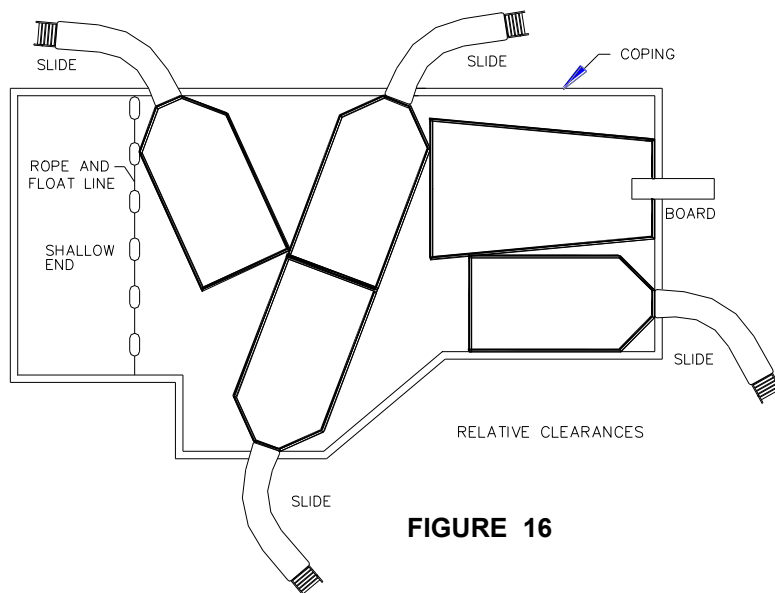

FIGURE 16
- B. The minimum clearance area of a slide or diving board shall not intersect any coping or rope and float line as shown in FIGURE 16. The minimum clearance area of a slide or diving board may intersect each other provided that they are not used simultaneously.